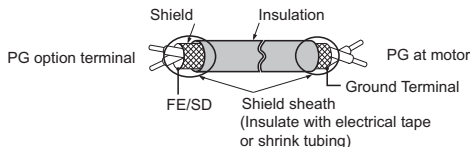

Figure 6 Preparing Ends of Shielded Cable
- Prepare wire ends as shown in Figure 6. Refer to Wire Gauges and Tightening Torques on page 20 to confirm that the proper tightening torque is applied to each terminal. Take particular precaution to ensure that each wire is properly connected and wire insulation is not accidentally pinched into electrical terminals.